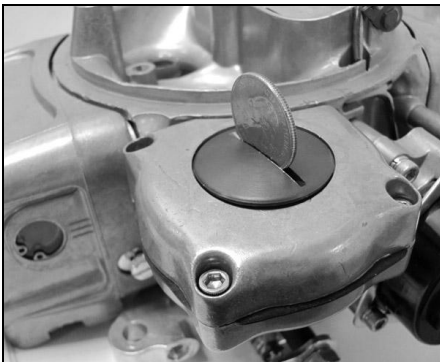

Figure 24
1. Using a wide bladed screwdriver or a coin (Fig. 24), remove the billet disk from the center of the pod lid. Once the disk is loose, lift the disk from the pod lid and remove the spring.